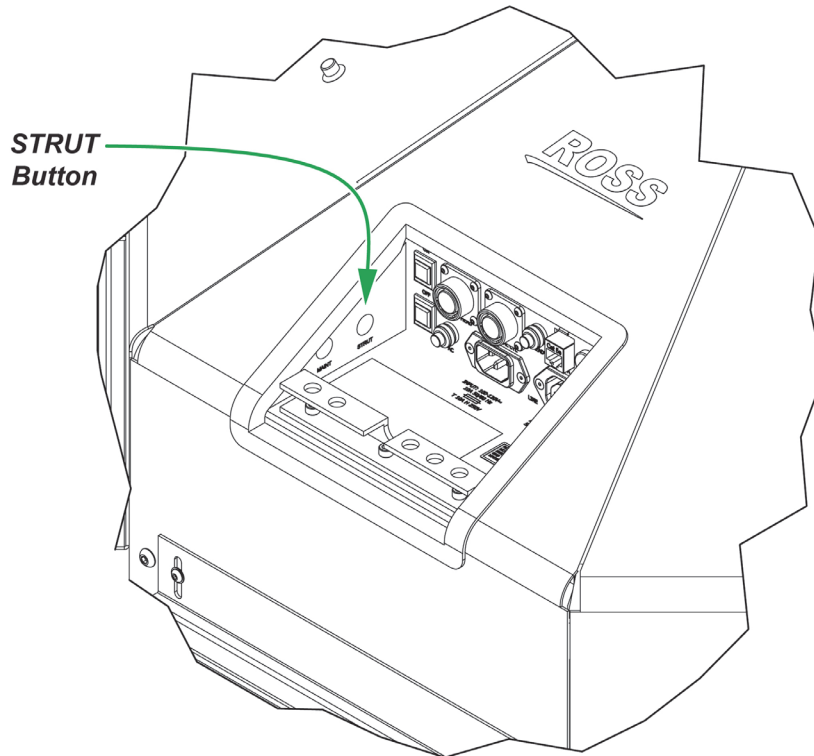

Figure 10 - The STRUT Button on the Connection Panel
- a. Press and hold the **STRUT** button and then turn the pedestal **ON** (see **Figure 10**).